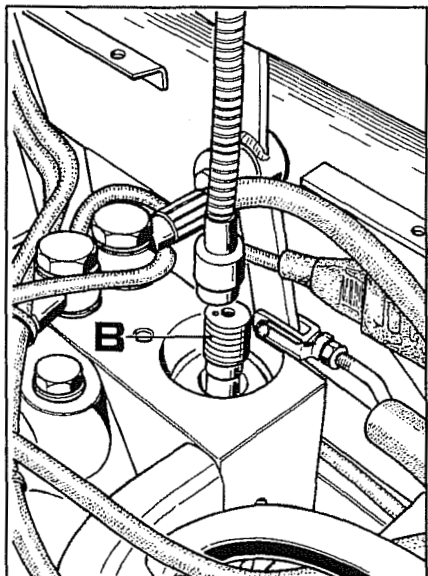

Fig. 14
3. Use a magnet to extract the piston **B** (Fig.14) from the solenoid. Clean it and dry it with a jet of compressed air.